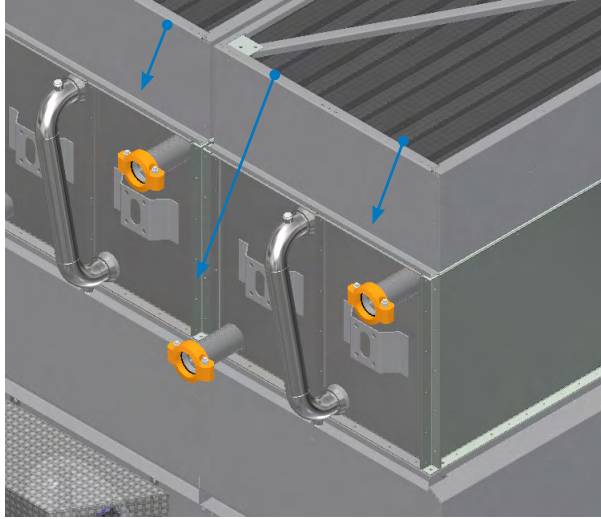

Figure 20. Place Flexible Coupling (Series Flow Shown)
2. Place the 3" flexible coupling (Victaulic, BAC #202174M6) onto the hCore® Heat Transfer System. See **Figure 20**.